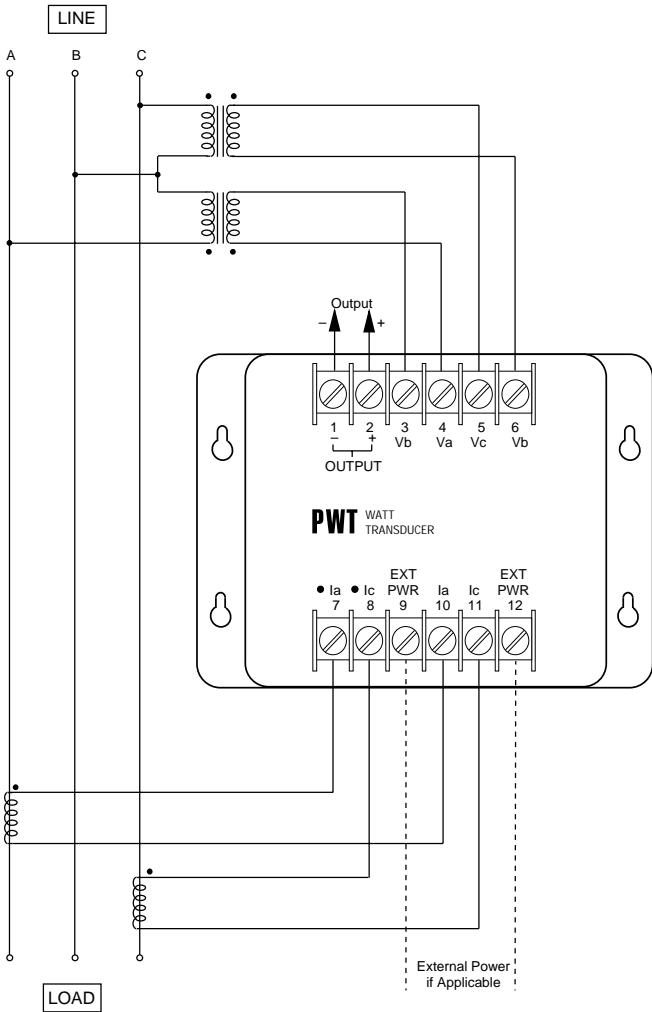

Figure 6.
Measuring power on this type of system, the most common arrangement found in the process industries, requires a two-element transducer. As shown in Figure 6, the voltage on the third wire (B) functions as a reference for each of the transducer's elements.